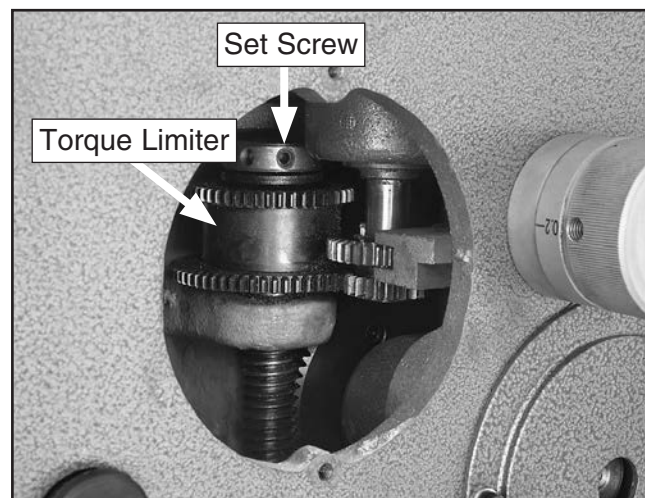

Figure 39. Torque limiter and set screw.
3. Rotate the spindle by hand until the set screw on the torque limiter is visible (see **Figure 39**).